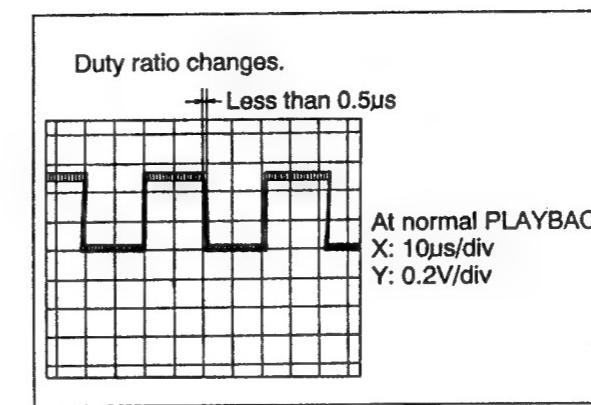

Fig. 1
2. Load a **DCC music tape (RFKZ0034)** into the unit under test and put the unit **IN PLAY mode**. When the capstan servo is locked, a **47Hz square wave with a duty ratio variation of less than 0.5μs** will be observed on the scope (see Fig. 1). Unlock the servo and verify that the muting function is active.